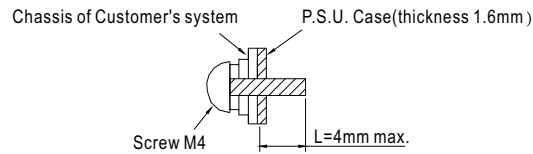

Figure 7-1 Mounting Screw
- ⊙ The length L of the mounting screw must be less than 4mm when measured from the case of the NMP, as shown in Figure 7-1.